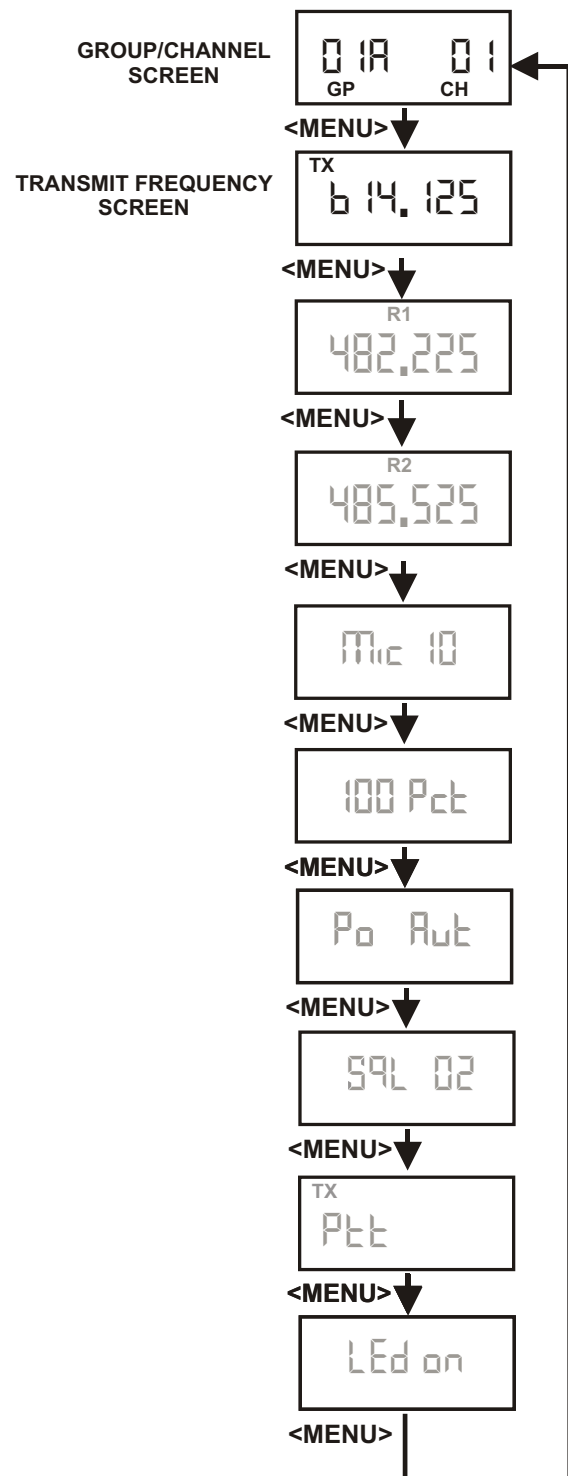

Figure 7-5
1. Set the unit to the desired user defined group and channels; see Groups and Channels Instructions. The menu structure at the right (Figure 7-5) indicates how to get to the transmit frequency screen.